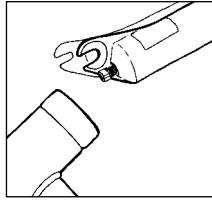

Fig. 8
- Partially loosen the air nut with a 10mm socket, tap air nut firmly with a rubber mallet breaking shafts free from lower tube (see Fig. 8), and remove bolts completely. Remove the 8mm cartridge retaining nut on damper side and loosen the cartridge shaft from the lower by partially installing the cartridge retaining nut onto the damper shaft. Place an 8mm socket over the nut and firmly strike the socket.